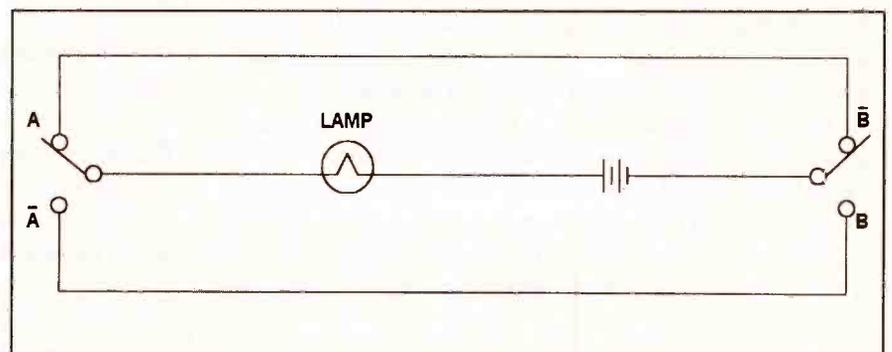

Figure 1. Write the Boolean expression for this circuit.
- Write the Boolean expression using A, B,  $\bar{A}$  and  $\bar{B}$  for the circuit shown in Figure 1.